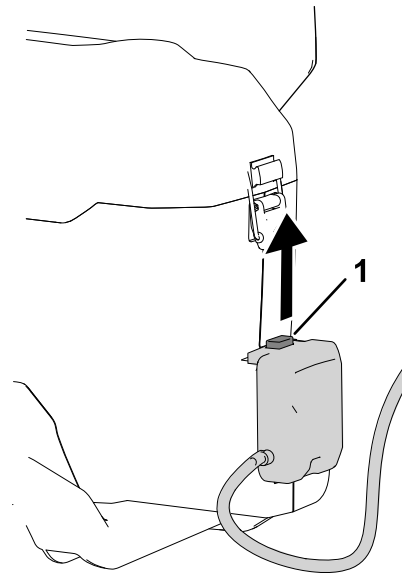

Figure 7
2. Press the latch button on the backpack connector and pull it up to separate the tether from the backpack (Figure 7).